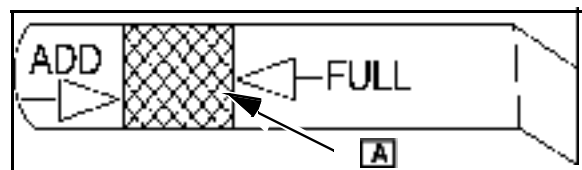

Fig. 4
9. Check dipstick. If necessary, add more oil slowly to bring oil level to **FULL** mark ([A] Fig. 4) on dipstick.